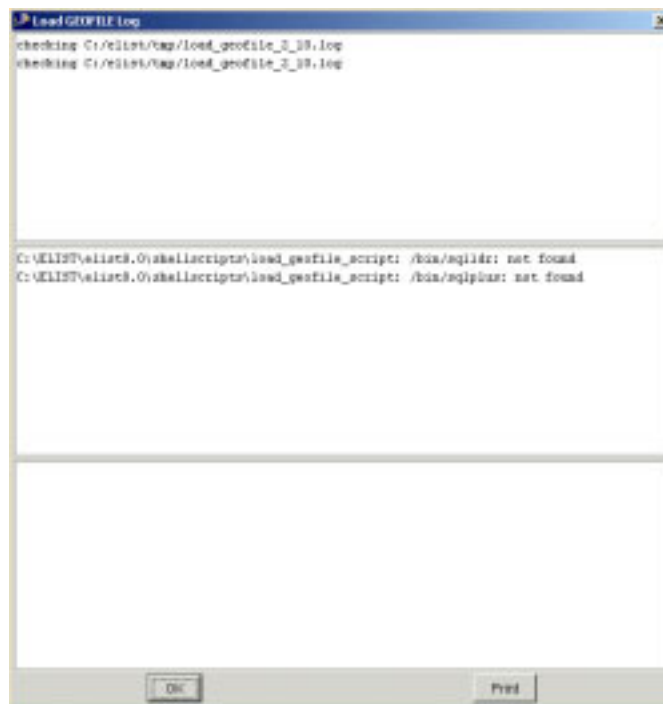

Figure 5.174 Load GEOFILE Log Window
- To import the GEOLOC set, click OK. After a moment the file is imported and the Load GEOFILE Log window opens (Figure 5.174).